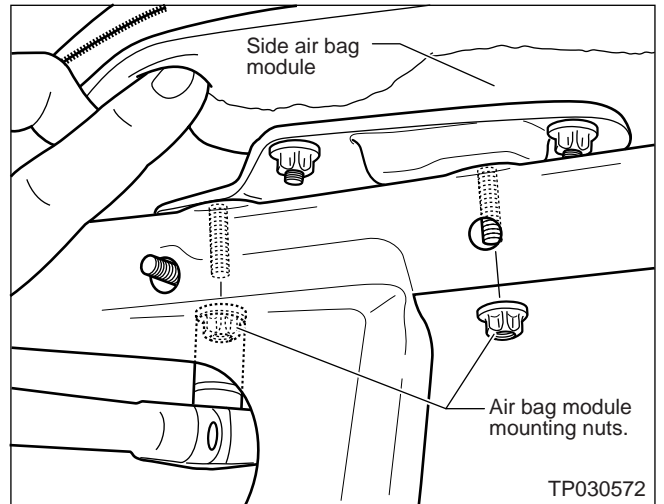

Figure 8
10. Remove the nuts that secure the air bag module to the side of the seat (see Figure 8).